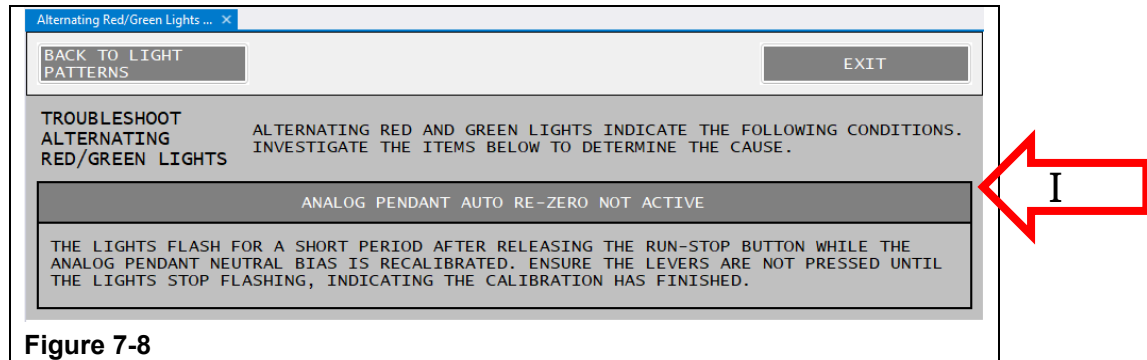

Figure 7-8
In Section (I), follow the instructions below. (See Figure 7-8)